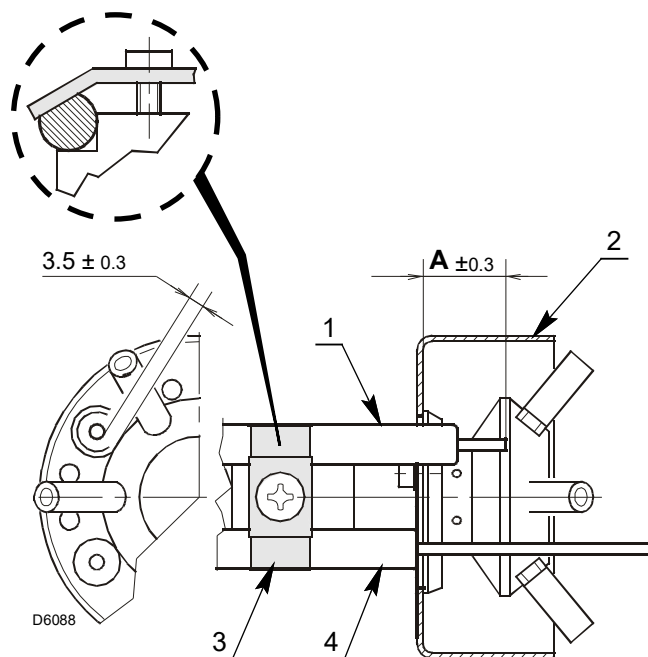

Fig. 15
- Make sure that the plate 3)(Fig. 15) is always inserted in the flattening of the electrode 1)(Fig. 15).
- Rest the probe insulator 4) against the air diffuser 2)(Fig. 15).